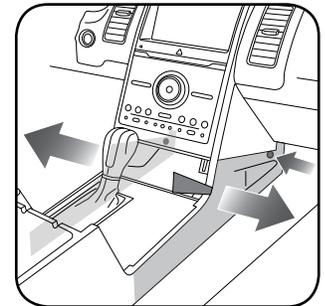

Fig. 1.4
4. Unclip the side panels on the center console. This will expose (1) 7mm screw on each side securing the bottom of the radio bezel. Remove these screws. (Fig. 1.4)